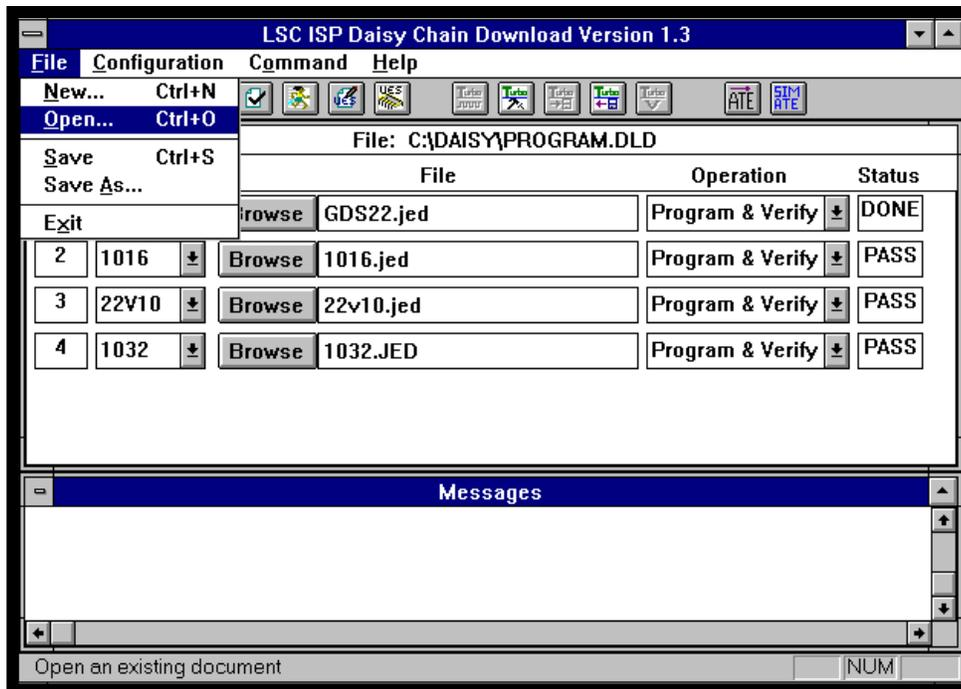

Figure 3-35. **F**ile ⇒ **O**pen Menu Option
1. Select **File** ⇒ **Open** or click the **Open** icon in the IDCD menu (Figure 3-35). The standard Open dialog box appears.